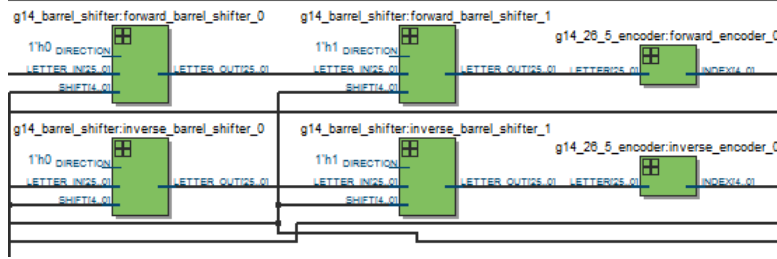

Figure 10: The second layer of components of the rotor.
3. The signal travels from the barrel shifter to another barrel shifter, which shifts the signal to the **left** based on the **ring settings** of the Enigma. This can be seen in figure 10.
4. The signal is now re-encoded back into its five bit representation by the forward_encoder_0 which can be seen in figure 10.